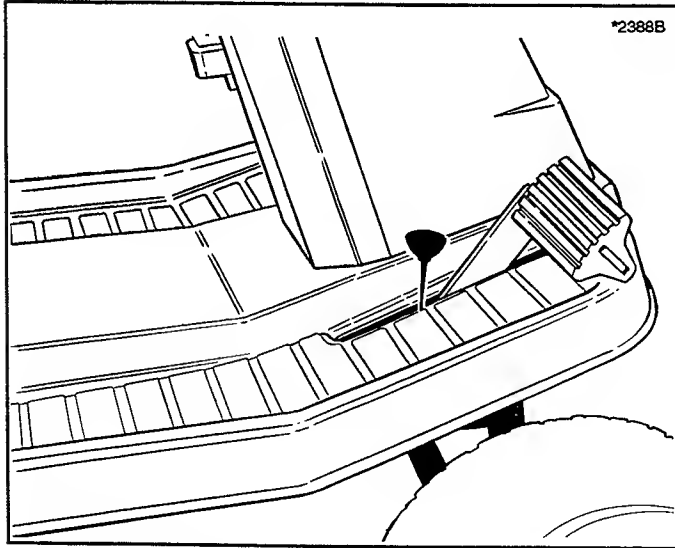

Figure 11. Lubricate Pedal Pivot Point
1. With an oil can, apply a few drops of oil to points indicated with  in figures 11 through 16.